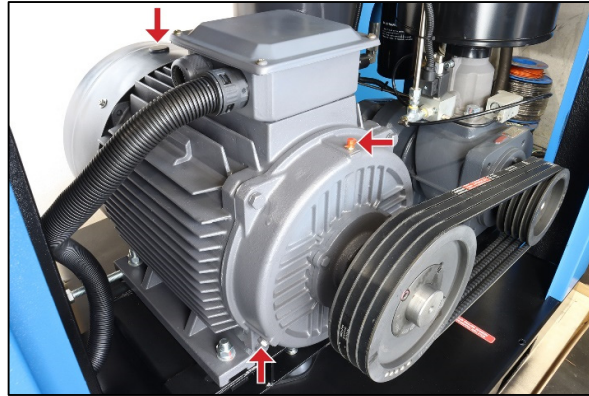

Figure 5-4: Motor Bearing Re-Greasing (NDE grease drain not shown)
- a. Locate the grease nipple on top of each DE and NDE bearing and also the grease drain plugs underneath (that may be offset to one side). Refer to Figure 5-4. It is often necessary to temporarily remove the motor fan cowl on the non-drive end to access these points.